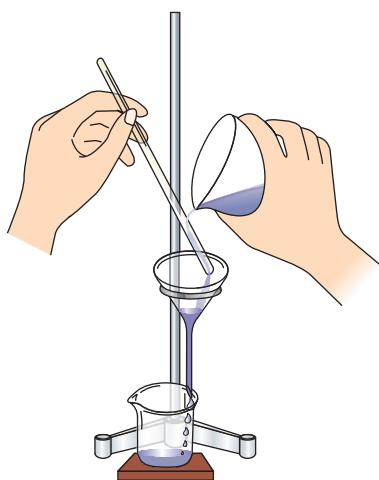

Fig. 2.11 : Process of filtration
- Add more water so that the stem of the funnel is filled with water. If the filter paper is fitted correctly, the filter paper will support a column of water in the funnel stem. The weight of this column of water produces a mild suction that expedites filtration (Fig. 2.11).
- (ii) For separating the solid from the liquid, filtration should be done in two stages. First, almost whole of the liquid should be poured out carefully down a stirring rod (Fig. 2.11). When only a few millilitres of the mixture remain in the beaker, it should be poured into the funnel after swirling the beaker gently. The sides of the beaker are then rinsed with a stream of water and the content is again poured into the funnel. Rinsing is repeated till the beaker and the stirring rod is clean. It is better to pour down a solid liquid mixture along a glass rod (Fig. 2.11). However, care should be taken that paper is not punched by the stirring rod.